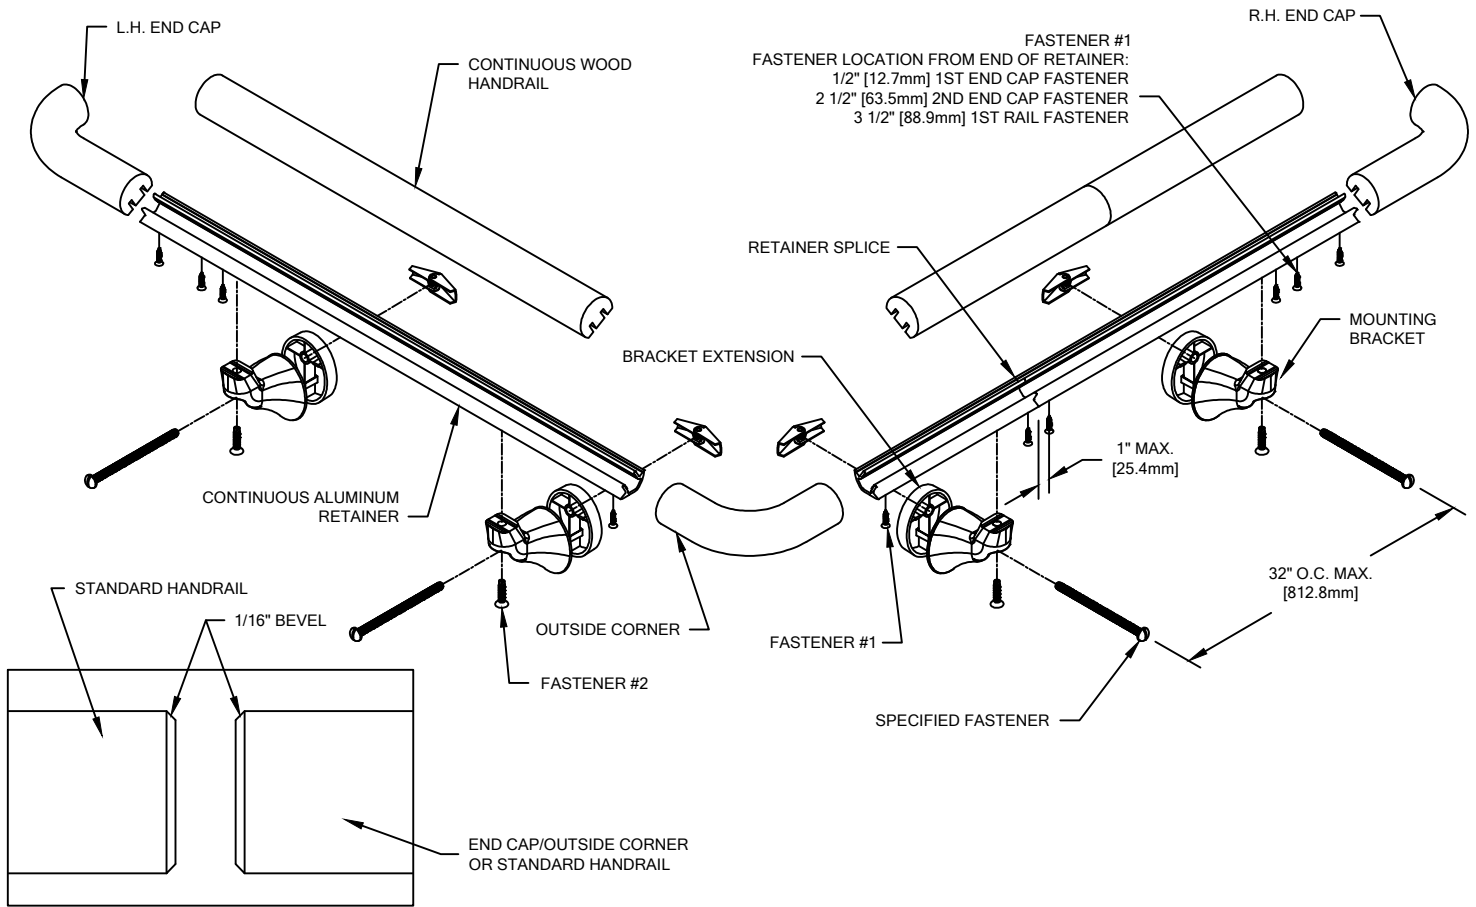

FIGURE 1
1. DUE TO WOOD BEING A NATURAL PRODUCT, COMPONENTS MAY GROW AND SHRINK AT DIFFERENT RATES. BECAUSE OF THIS, C/S HAS DESIGNED THIS HANDRAIL TO UTILIZE A BEVEL AS SHOWN IN THESE INSTRUCTIONS (SEE FIGURE 1). THIS BEVEL MUST BE APPLIED AT ALL WOOD JOINTS AND MUST MATCH FACTORY BEVEL ON END CAPS.
7. CUT THE WOOD HANDRAIL TO LENGTH USING THE REQUIRED DEDUCTIONS (REFERENCE LAYOUT VIEW). BEVEL THE HANDRAIL EDGES SLIGHTLY WITH 150 GRIT SANDPAPER TO MATCH BEVEL ON WOOD END CAPS (SEE FIGURE 1 ABOVE). TOUCH UP SANDED EDGES WITH STAIN MARKER.